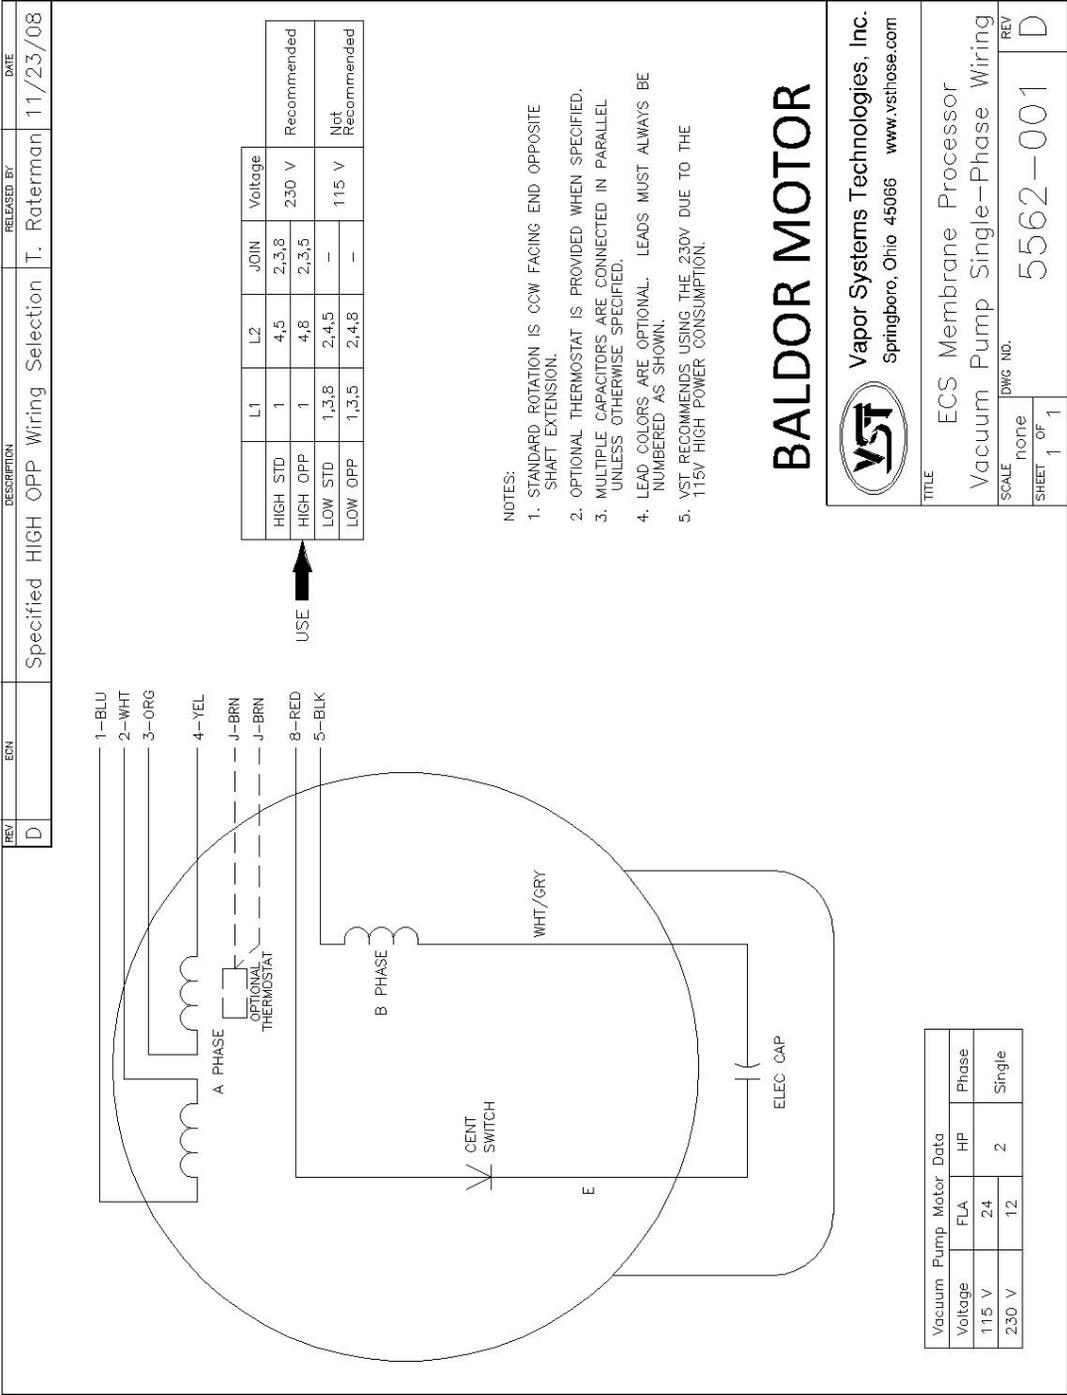
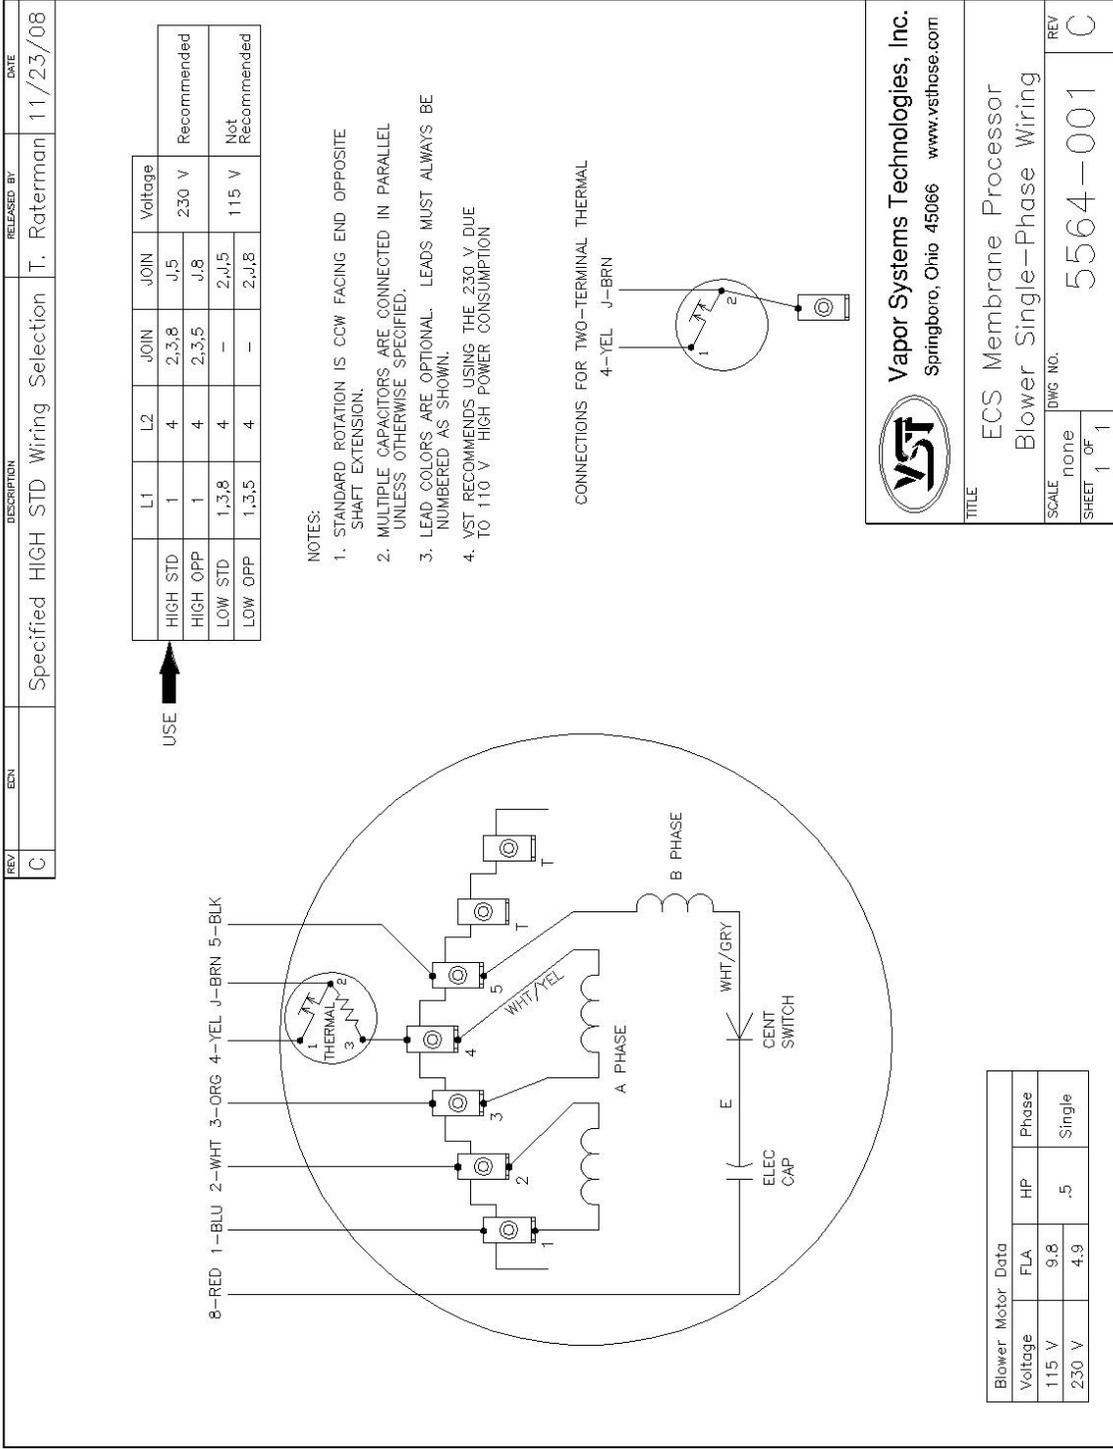

Figure 14: Vacuum Pump: Single-Phase Motor Wiring Diagram
Figure 16: Blower: Single-Phase Motor Wiring Diagram
- ▶ See Figure 14 and Figure 16.